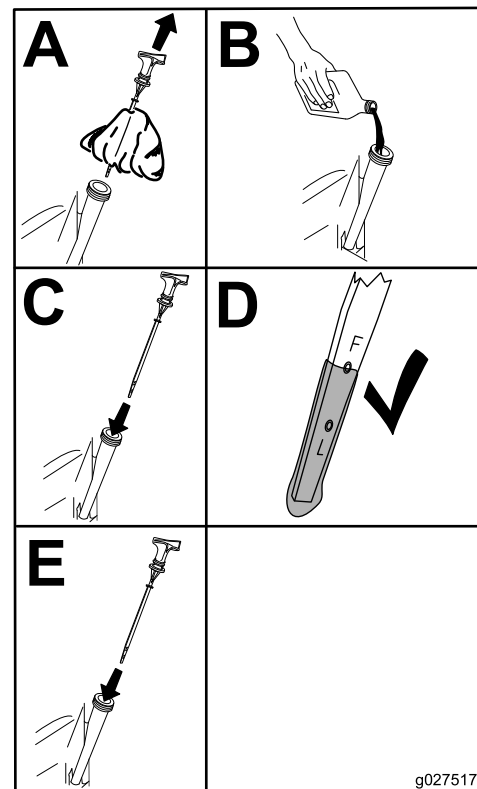

Figure 30
5. Slowly pour approximately 80% of the specified oil into the filler tube (Figure 30).